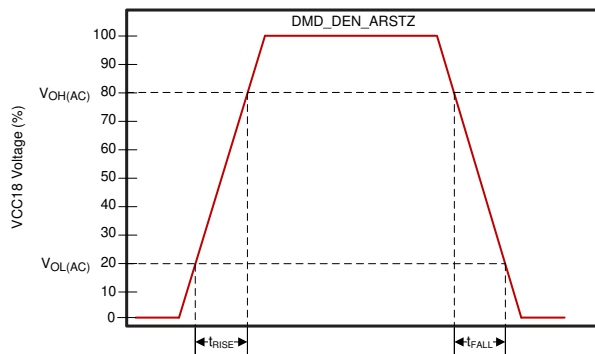
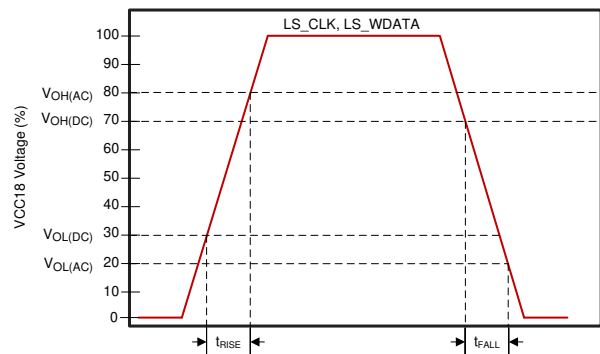

Figure 6-3. DMD_DEN_ARSTZ Slew Rate
Figure 6-4. LS_CLK and LS_WDATA Slew Rate
- See Figure 6-4 for DMD_LS_CLK, and DMD_LS_WDATA rise and fall times. See Figure 6-3 for DMD_DEN_ARSTZ rise and fall times.